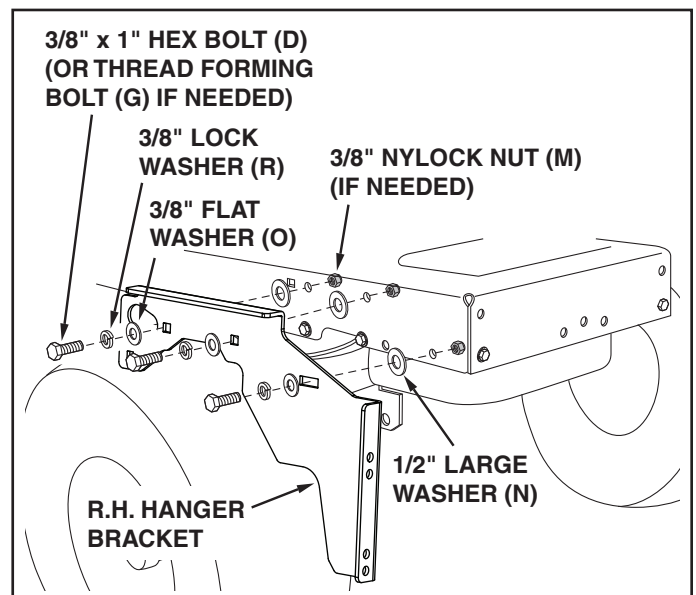

FIGURE 8
STEP 2: (SEE FIGURE 8)
- Attach the R.H. hanger bracket to the three holes shown on the side of the tractor frame using three 3/8" x 1" hex bolts (D), 3/8" lock washers (R), 3/8" flat washers (O) and 1/2" large washers (N). Use 3/8" nylock nuts (M) on inside of frame if bolts insert freely into holes. **Tighten.**